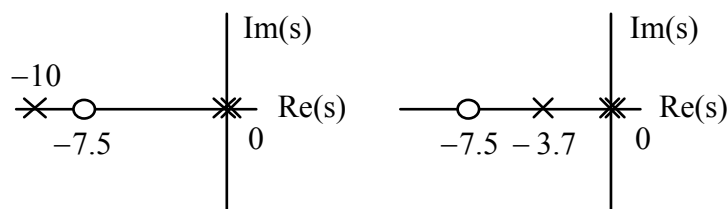

Figure 2.2. Two cases for the open-loop poles and zeros of the system of Figure 2.1.
- (b) Figure 2.2 shows two cases for the positions of the open loop poles and zeros of the system.
- One of the plots of Figure 2.2 corresponds to the case when the demands on the movement of the valve are below its velocity limit and the time constant of the valve is: $\tau_v \cong 0.10$ seconds. The other is for the case of a large step leading to a rate-limited movement and the time constant of the valve is: $\tau_v \cong 0.27$ seconds. Which is which? Explain your answer. [10 marks]